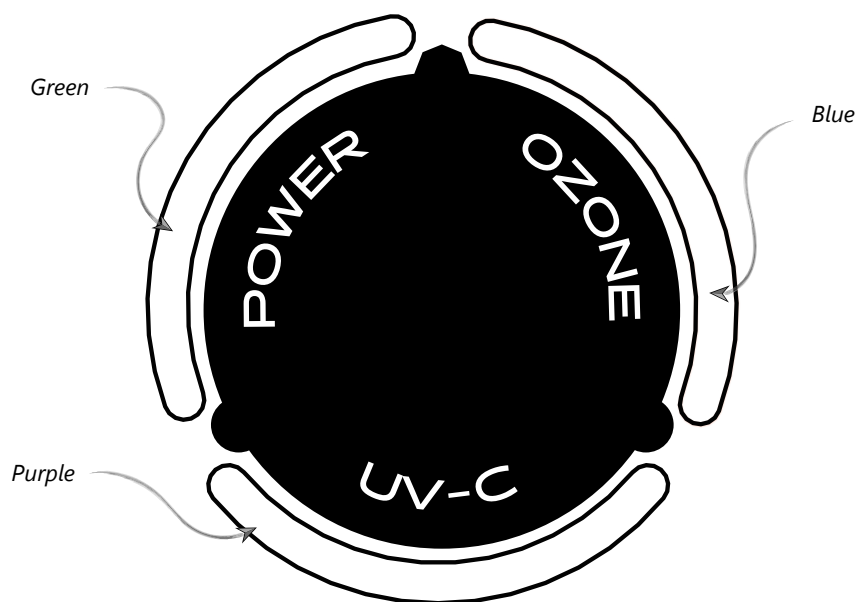

Figure 8: LED Indications at Normal Operation
*The DEL AOP is constructed with one (AOP 25) or two (AOP 40) APG2 corona discharge ozone modules. Blue ozone light on system smart status LEDs indicate ozone modules are operating properly (refer to Figure 8 for a more detailed view).